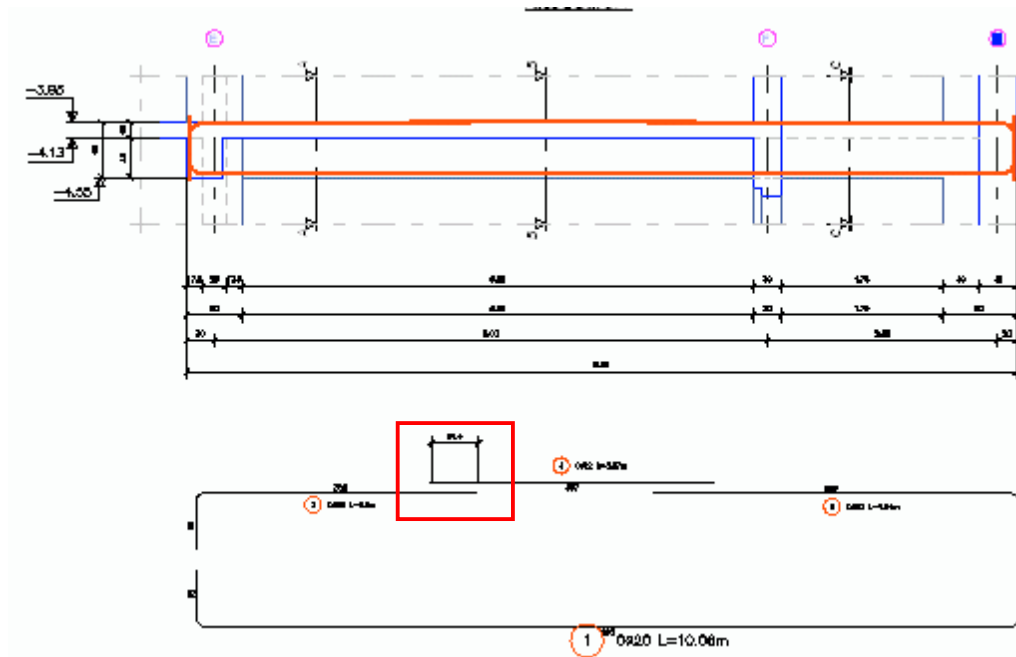

Figure 484: Dimension by points
- Click the two points to dimension as shown in Figure 484.